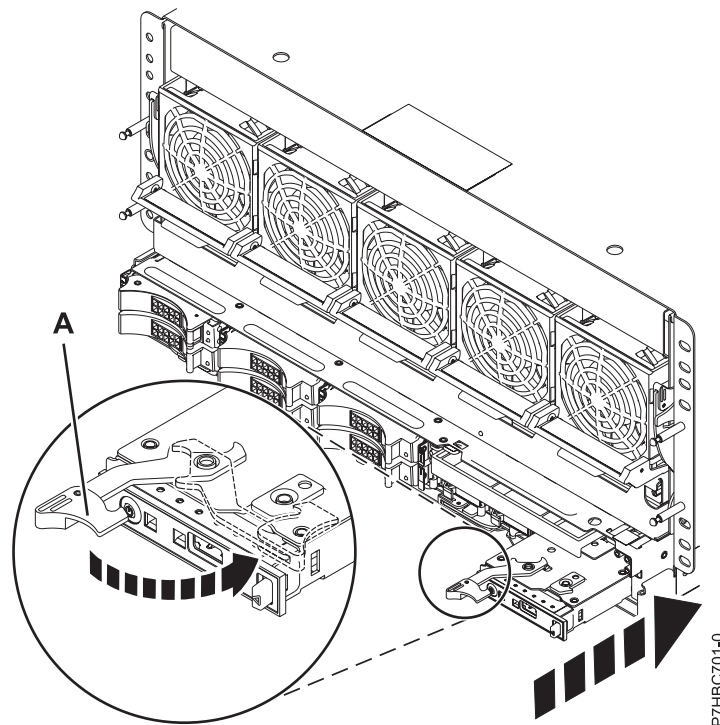

Figure 2. Installing a control panel
4. Install the new control panel, as shown in Figure 2.
- c. Move the locking arm (A) to the right, and push in on the latch to lock it in place, as shown in the following figure.